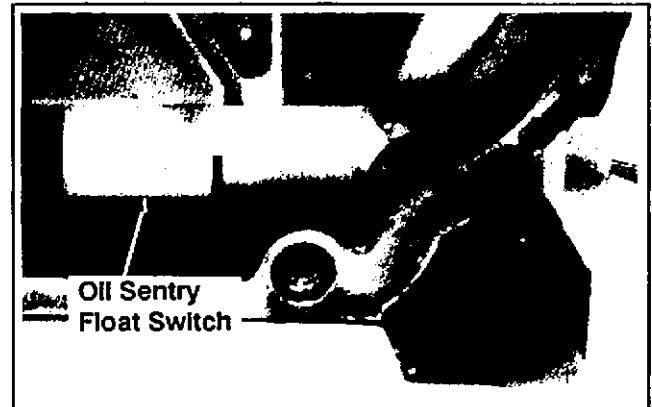

Figure 11-7. Installing Oil Sentry™ Switch.
1. Install Oil Sentry™ float switch in crankcase. Refer to Section 8 and Figure 11-7. Torque the float switch to **13.6 N•m (120 in. lb.)**.